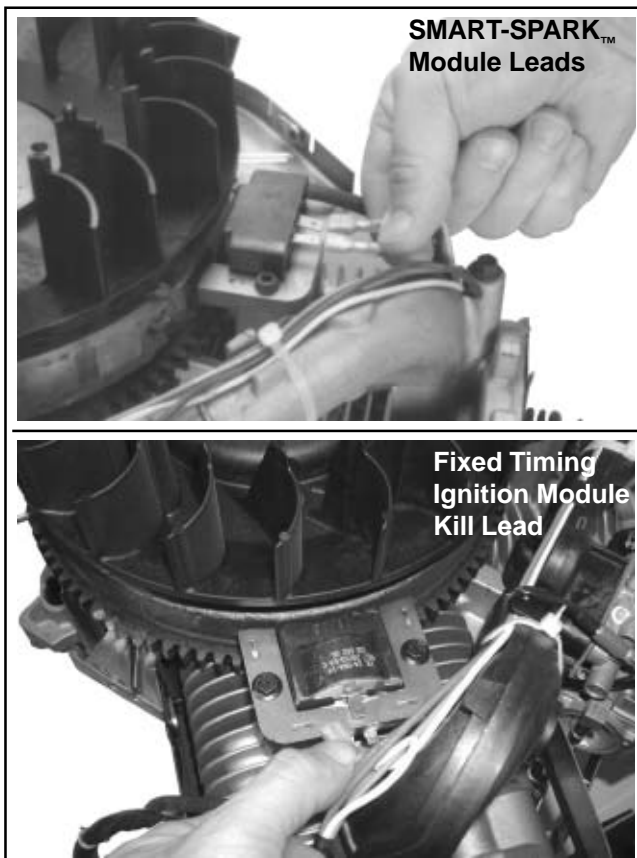

Figure 9-32. Disconnect Lead(s) from Ignition Modules.
1. Disconnect the lead(s) from each ignition module. See Figure 9-32.